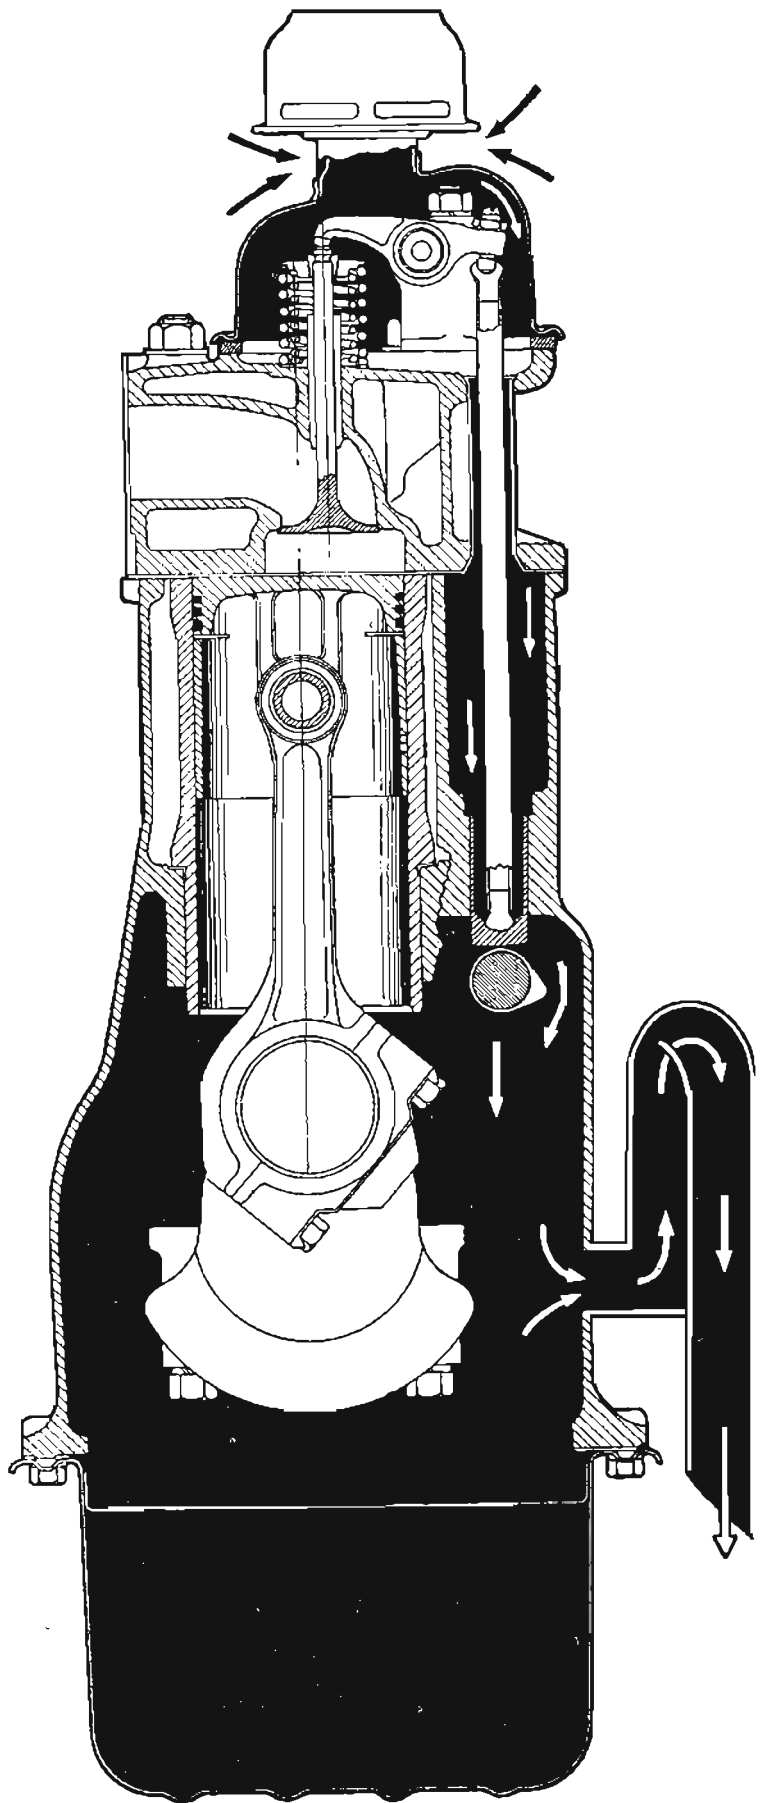

Fig. 11 A diagrammatic view of Crankcase Ventilation.
- (p) **Crankcase Ventilation** (Fig. 11) is effected by permitting air to be drawn out of the engine. To enable this ejection a large bore pipe in the form of an inverted "U" is fitted into the left-hand side of the cylinder block by means of an adapter welded to its end. The exposed end is cut away at an angle to provide a wider opening facing away from the slipstream. The passage of air (the slipstream) created by the cooling fan or the movement of the car causes a depression at the angle opening of the inverted "U" pipe and air is drawn out of the cylinder block. Fresh air is taken in through the rocker cover oil filler cap, circulating round the valve springs and rockers before passing down the push rod tubes into the cylinder block to replace air which is being drawn out. It is essential therefore that the filler cap is kept as clean as possible to allow free of air. This cap, which has a gauze